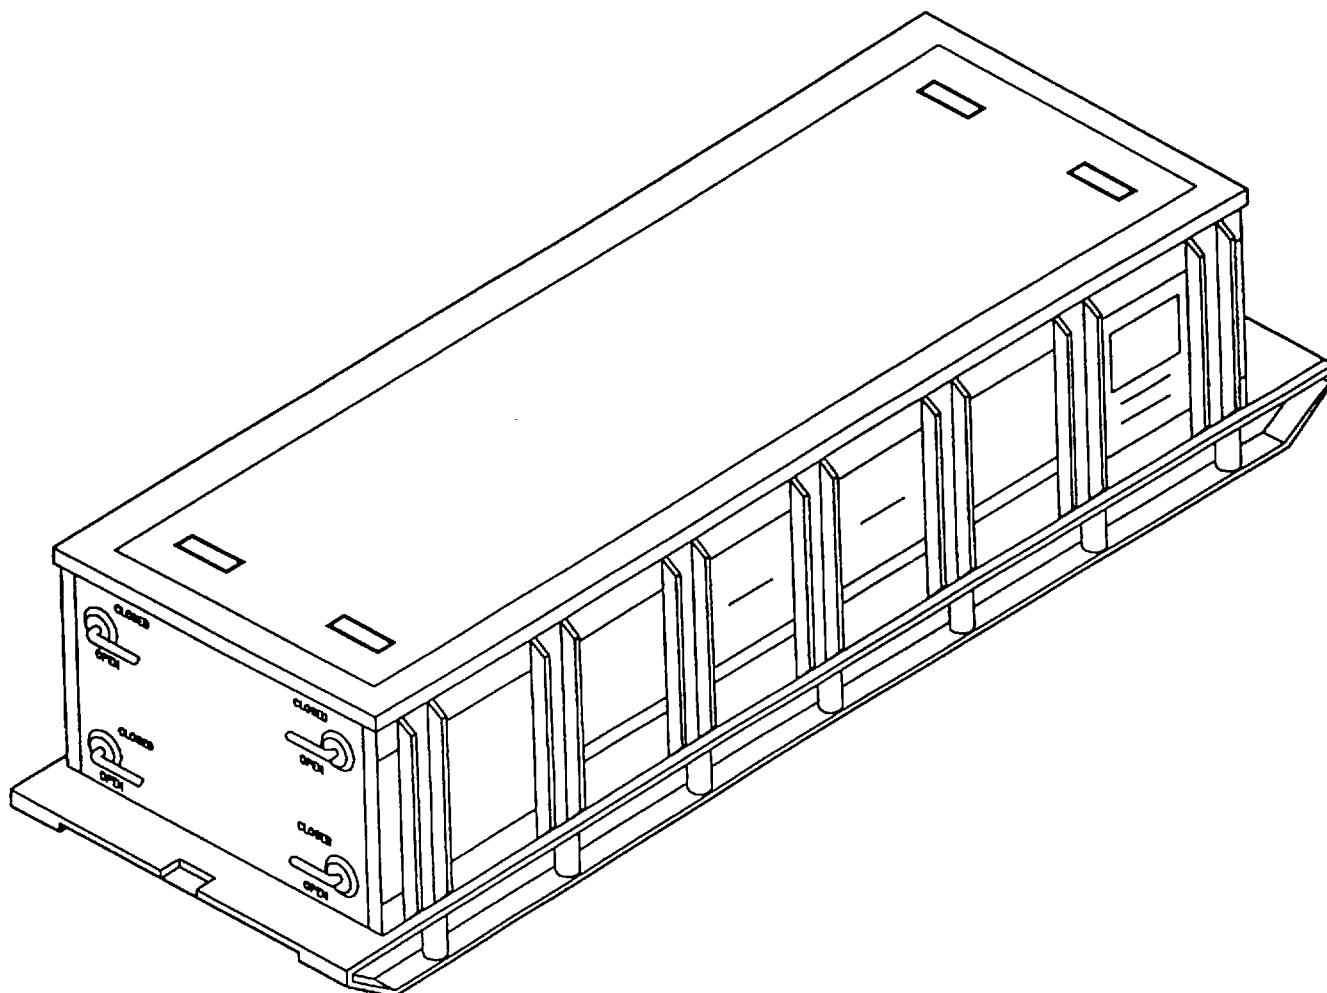

Figure 1-16. Water Tank Chest
(19) **WATER TANK CHEST (Figure 1-16).** A 50,000-gallon tank used with lead pumping station.